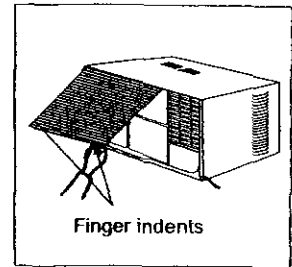

Fig 2
- B Locate the finger indents on the underside of the interior air inlet grille (Fig 2)
- C Lift the air inlet grille (fully open) until it disengages from the top edge of the front panel (Fig 2)